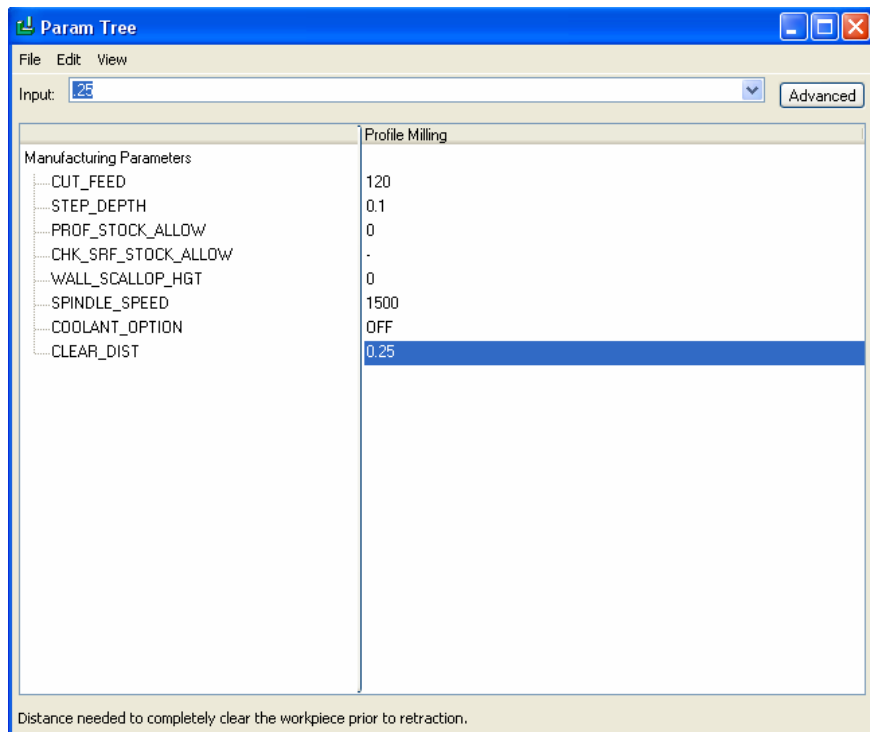

Figure 11: Parameters for profiling
- Step 6:** Choose SET and use the values shown in Figure 11. When finished, select FILE << EXIT to save and exit the Parameter Tree dialog box.